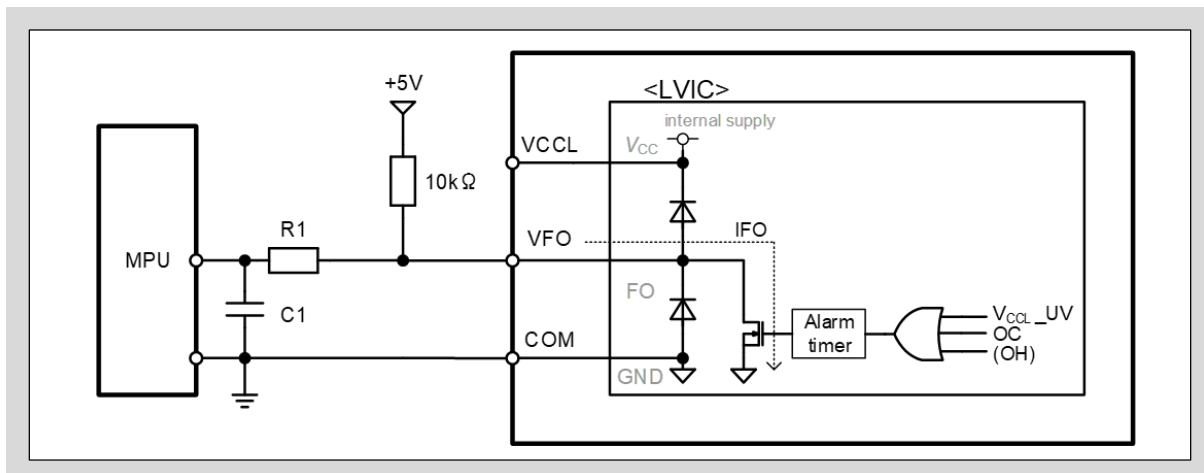
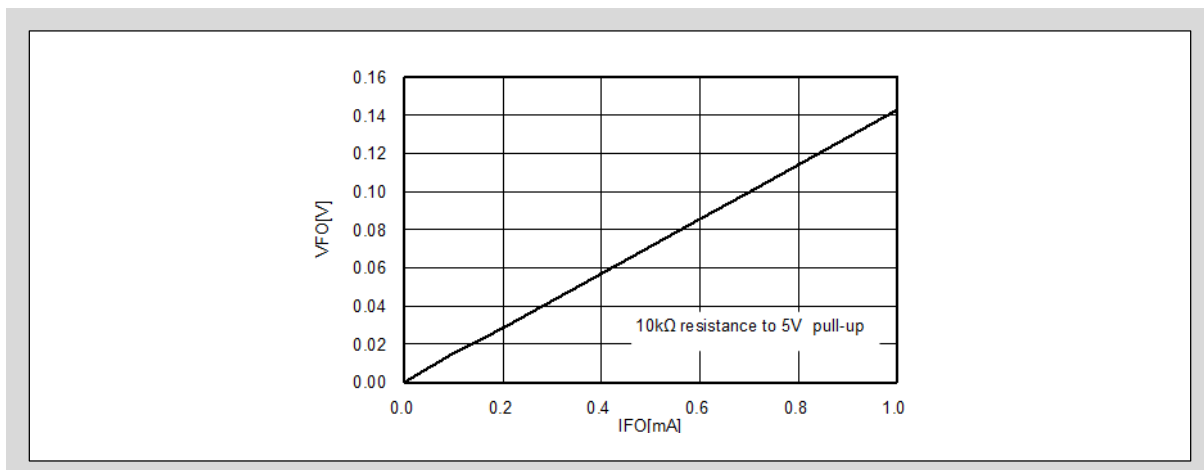

Fig.3-21 Recommended MPU I/O Interface Circuit of VFO terminal
Fig.3-22 Voltage-current Characteristics of VFO terminal at the fault state condition
- As shown in Fig.3-21, it is possible to connect the fault status output VFO terminal directly to the MPU. VFO terminal is open drain configured, thus this terminal should be pulled up by a resistor of approximate 10k Ω to the positive side of the 5V or 3.3V external logic power supply. It is also recommended that the bypass capacitor C1 and the inrush current limitation resistor R1 above 5k Ω , should be connected between the MPU and the VFO terminal. These signal lines should be wired as short as possible.
- Fig.3-21 shows that the diodes in the IPM are electrically connected to the VCCL-VFO and VCCL-COM terminals. Do not use these diodes for voltage clamp purpose otherwise the product might be damaged.
- Fig.3-22 shows the Voltage-current characteristics of VFO terminal at fault state condition. The I_{FO} is the sink current of the VFO terminal as shown in Fig.3-21.